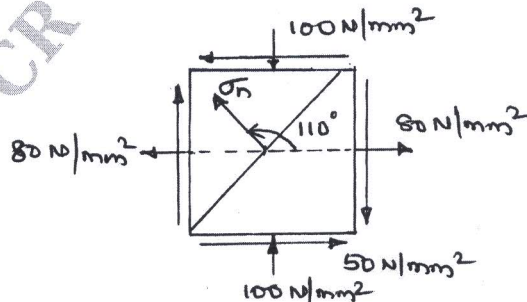

Fig.Q3(b)
- An element with the stresses acting on it as shown in Fig.Q3(b). Determine :